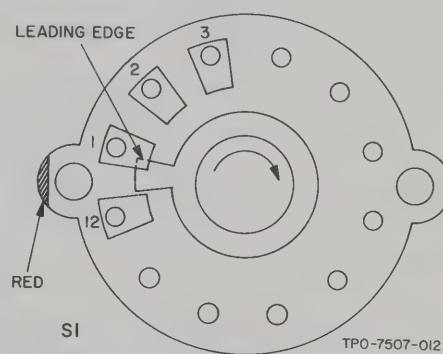

Figure 4-1. Relay Control Module, Switch S1 Rotor Position.
- d. Relay control module switch S1 should be in the home position as shown in figure 4-1; about one-third of the rotor blade into clip number 1 and two-thirds of the rotor blade between clip number 1 and clip number 12, but not touching clip number 12. If adjustment of S1 is necessary, loosen the setscrews in the tension ring behind S1, make the necessary adjustment, and retighten the setscrews.